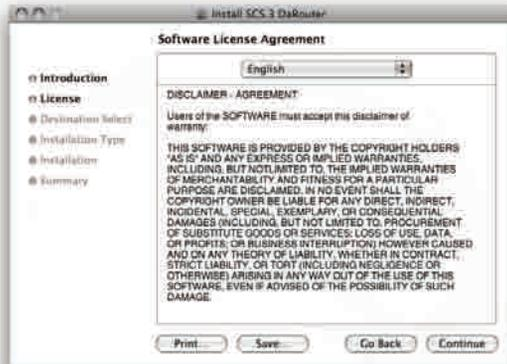

Figure 4.31
4. Read the License Agreement and click **Continue**. (Figure 4.31)